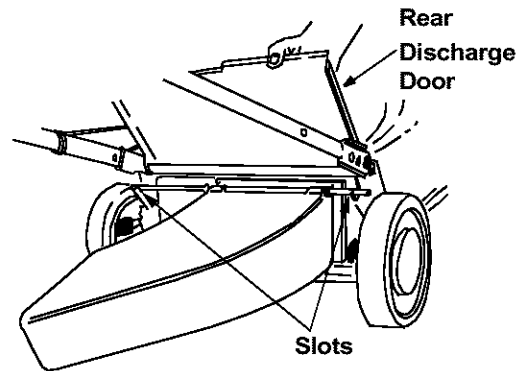

Figure 13
- **To attach chute deflector:** Lift the rear discharge door on the mower. Place the ends of the rod into the slots in the handle bracket assemblies. See Figure 13. Release the rear discharge door.
- **To remove chute deflector:** Lift the rear discharge door on the mower. Lift the chute deflector up and out of the slots in the handle bracket assemblies. Release the rear discharge door. See Figure 13.